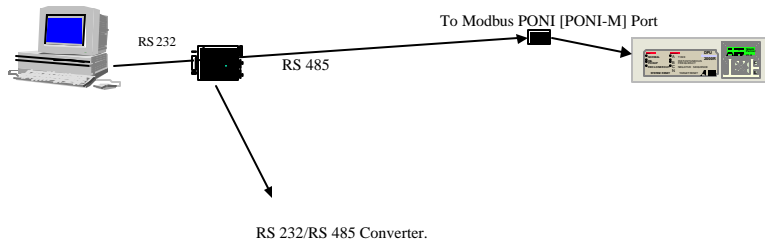

Figure 7 – Point To Point Configuration Architecture
7. Install the COMSET program and configure the Modbus PONI-M card port parameters to 9600 Baud, Modbus ASCII Emulation, No Parity, 2 Stop Bits. Type "comset" (without quotation marks) to initiate program execution. Attach the PONI -M card to a computer through an RS 232 to RS 485 converter as per figures 7 and 8. Start COMSET and configure using the parameters specified per the following procedure.